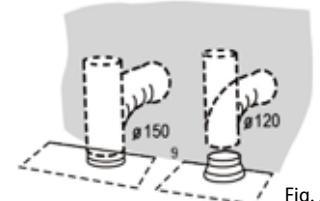

Fig. 5
4. After the hood has been hung, install the flexible outlet duct to the outlet opening (Fig. 5). Use a reducer fitting 150/120 mm in diameter, if required. Insert the second part of the flexible duct in the opening prepared in the wall.